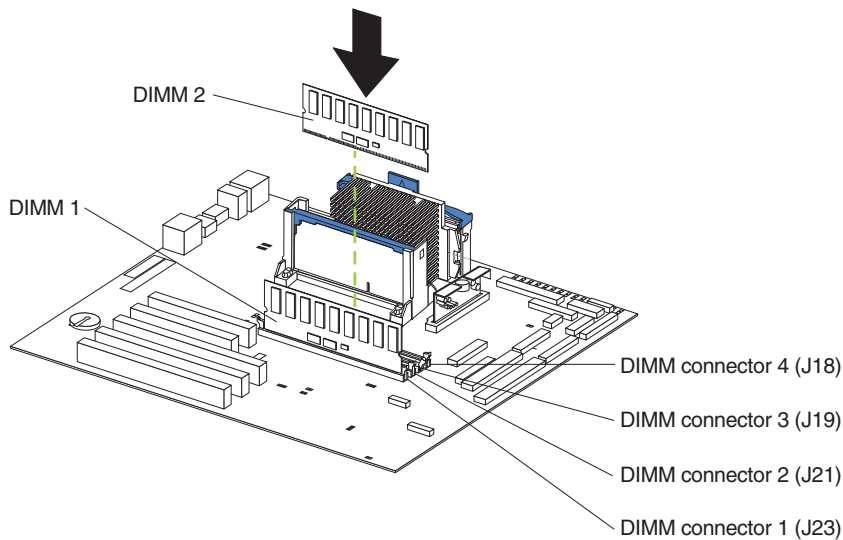

Figure 26. Installing a DIMM
7. Install additional DIMMs in the order specified in the documentation that comes with your option. (See Figure 26 for memory connector locations.)